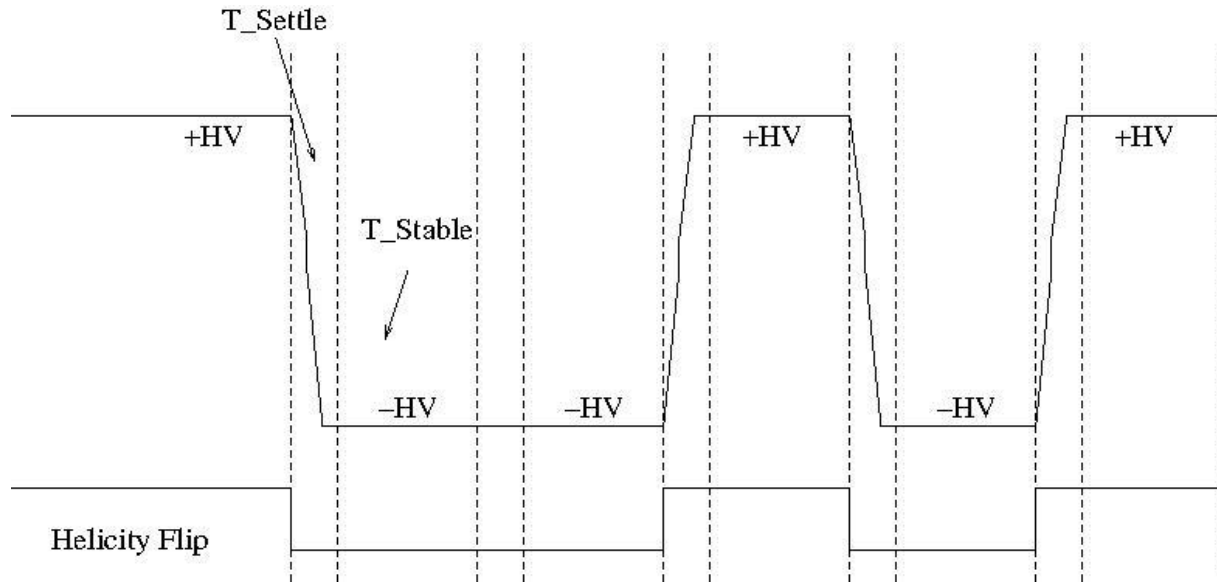

Figure 26: Pockels Cell HV showing the Helicity Flip.
3. Helicity Flip: This is the signal that goes to the Pockels Cell and IAs. The Pockels Cell changes its voltage with this signal thus changes the circular polarization of the laser light, see Figure 26. Its length is T_Settle + T_Stable. This is the real time helicity and goes only to the Laser Hut in CEBAF Injector. The IAs used to implement helicity-correlated charge feedback receives this signal, too. For one helicity, 0 voltage is applied to the IA and for the other helicity a voltage of up to ± 60 V is applied.
Figure 26 shows the Pockels Cell (PC) high voltage (HV) while the helicity is flipping. The Pockels Cell HV changes between +3 kV to -3 kV.